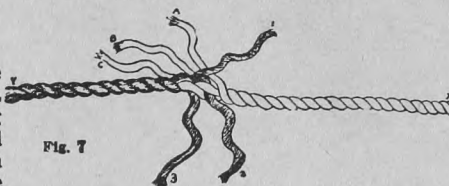

Fig. 7
For a long splice, a  $\frac{3}{8}$ -inch rope will require a free end of about 18 inches and an inch rope, of 36 inches. The strands are locked together as when beginning a short splice, making sure that the strands are properly paired. The strands of two pairs, as (b) and (2) and (c) and (3) (fig. 7), are then tied together, leaving (a) and (1) free. Unlay strand (a) one turn and follow it by relaying strand (1) in its place, drawing it firmly and keeping it twisted tightly. Continue until 6 or 8 inches from the end of the relaid strand (1) and tie as in (fig. 11).